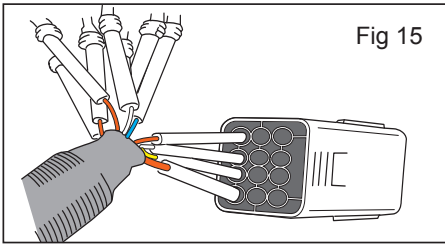

Fig 15
**Note:** If there is no PIN 3 on the lightbar harness, do not populate PIN 3, skip and continue. (Figure 15)